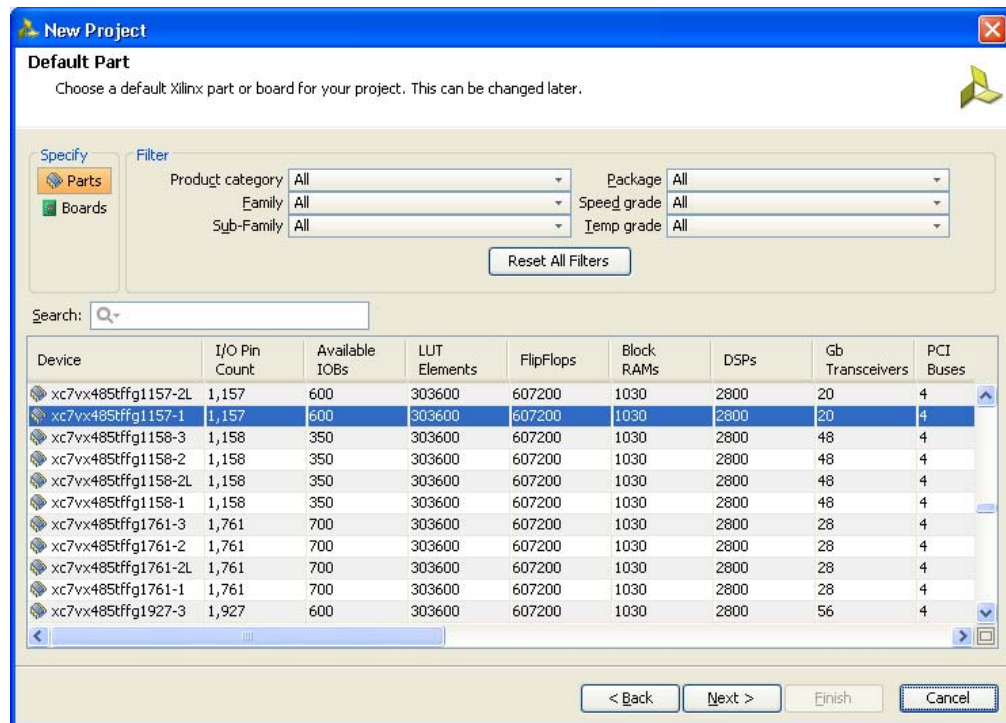

Figure 2-8: Default Part (Default Window)
8. Click **Next** to proceed to the **Default Part** page (Figure 2-8) where the device that needs to be targeted can be selected. The **Default Part** page appears as shown in Figure 2-8.